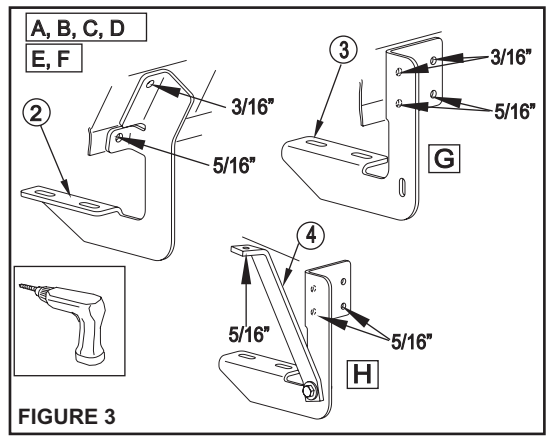

FIGURE 3
- STEP 3. Attach brackets. Mark holes. Remove brackets. Drill holes as shown. **SEE FIGURE 3.**
NOTE: Be sure to use the correct drill bit size for each hole. **SEE FIGURE 3.**